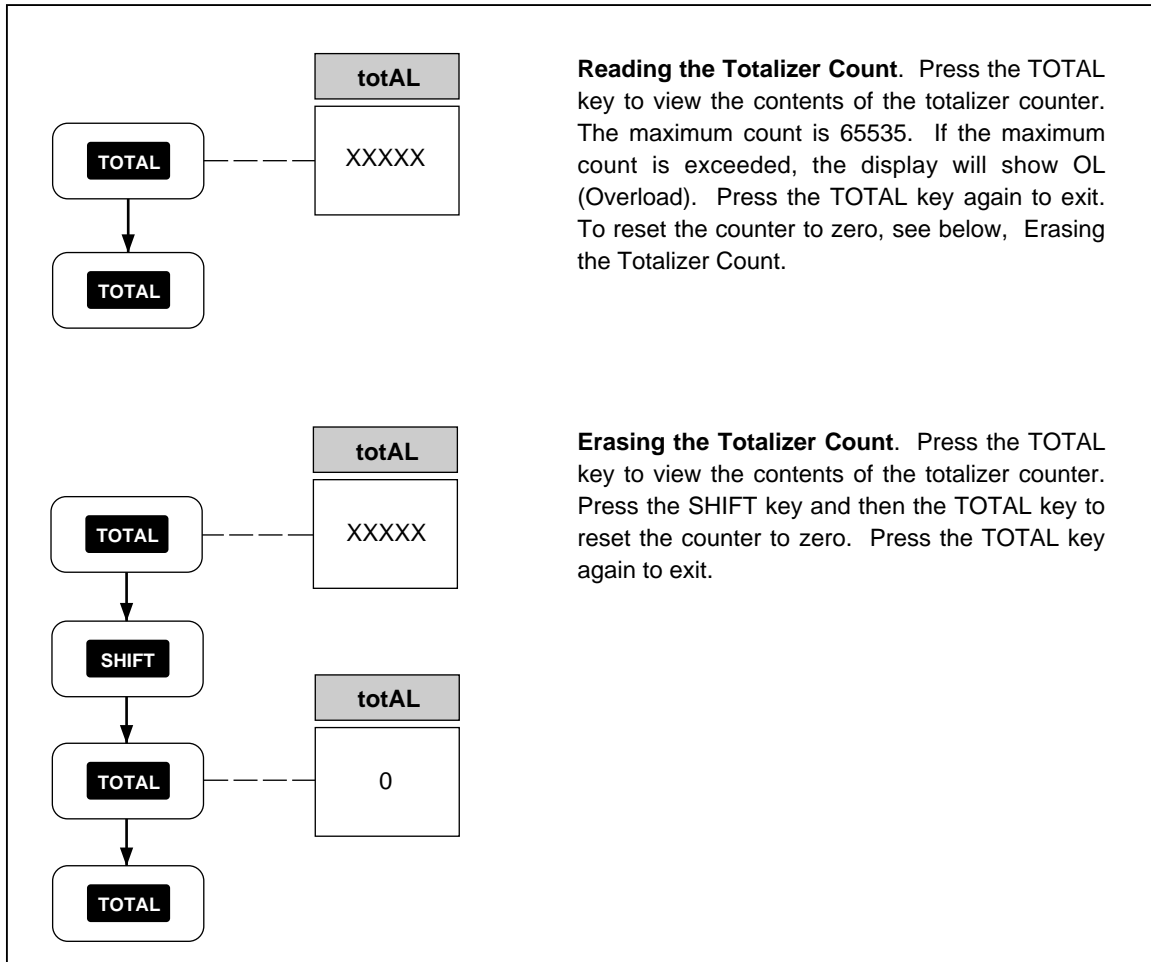

Figure 2-20. Totalizer Operation
- Totalizer Operation (Figure 2-20)
Perform the procedure in Figure 2-20 to use the totalizer feature. The totalizer count can be monitored when the instrument is active or inactive. The totalizer is an internal counter that sums contact closures or voltage transitions. Connection is at the rear panel DIGITAL I/O connector, pins SUM and GROUND. A contact closure between SUM and GROUND or a voltage transition applied to SUM (referenced to GROUND), will cause the totalizer to advance by one count. The maximum count allowed is 65535 and the maximum count rate is 5 kHz. Voltages trigger on a low-to-high transition at a nominal threshold of +1.4 volts. A contact debounce feature is available when the instrument is operated through a computer interface. (See Chapter 4, "Computer Operations.")